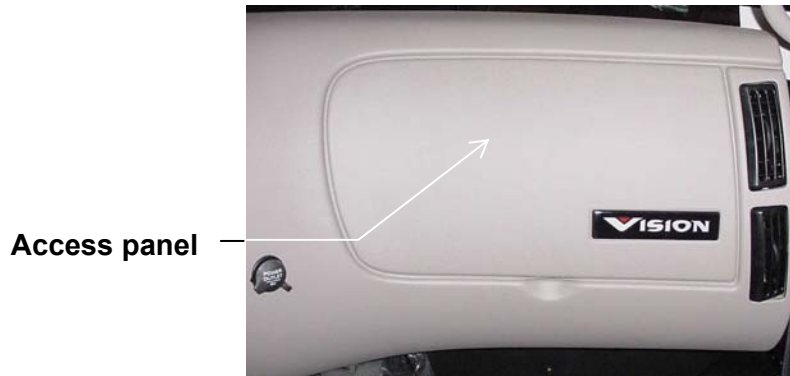

Figure 13: Access Panel for Data Bus
- 1 Remove the Vehicle Data Bus Access Panel (see Figure 13, below).